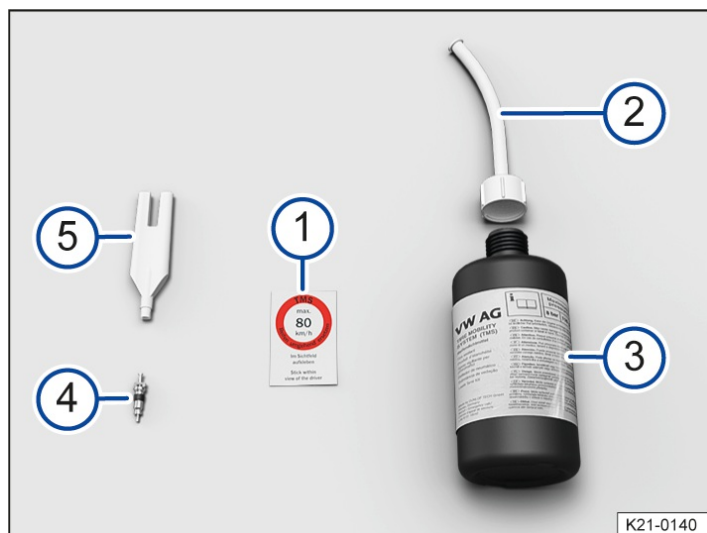

Fig. 1 Illustration: components of the breakdown set.
- ① Sticker with the maximum permitted speed "max. 80 km/h" or "max. 50 mph".
- ② Tyre sealant tube with plug.
- ③ Tyre filler bottle.
- ④ Spare valve core.
- ⑤ Valve core extractor.
There is a slot on the lower end of the valve core extractor → Fig. 1 ⑤ for the valve core. This is required for extracting the valve core from the tyre valve and then screwing it back into the valve again. This also applies to the spare valve core ④.